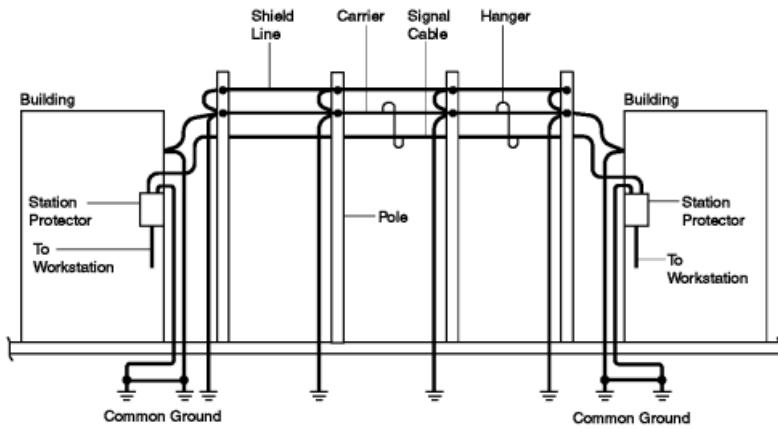

Figure 14. Using Shield Lines with Overhead Cables
- Put overhead cables under a shield line. The shield line is a metal cable run on the same poles. (Power lines can also have a shielding effect on cables.) The signal cables must hang at least 1 m (3.3 ft) below the shield line. Figure 14 shows shield lines used with overhead cables.